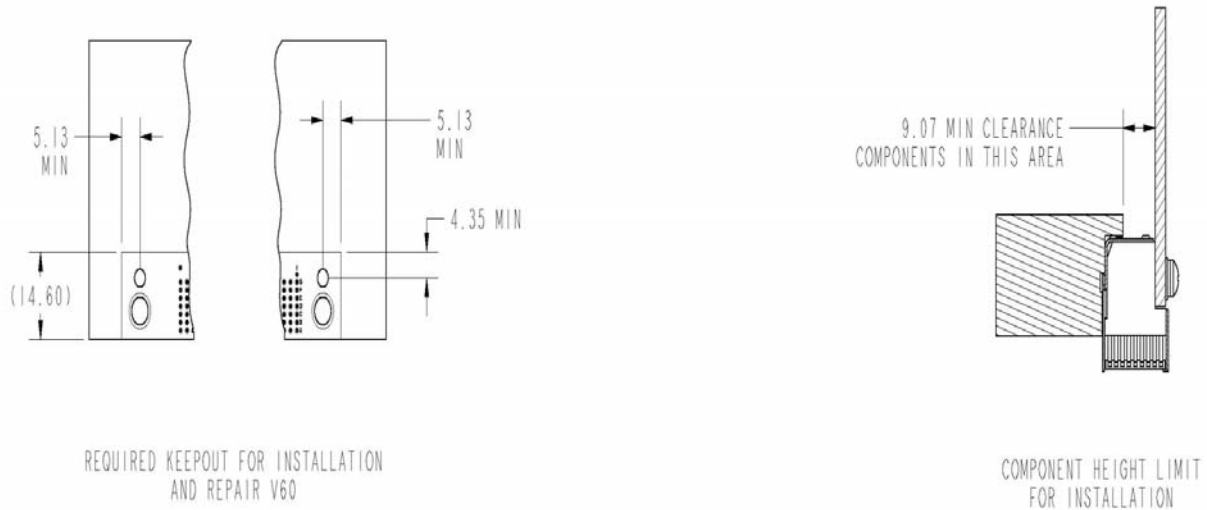

Figure 3. Daughtercard Component Keepout – Vita 60
- 4.2.2.1 Filleting of pads recommended (to be added by fabricator) for 0.000” annular ring (tangency), see Figure 3.